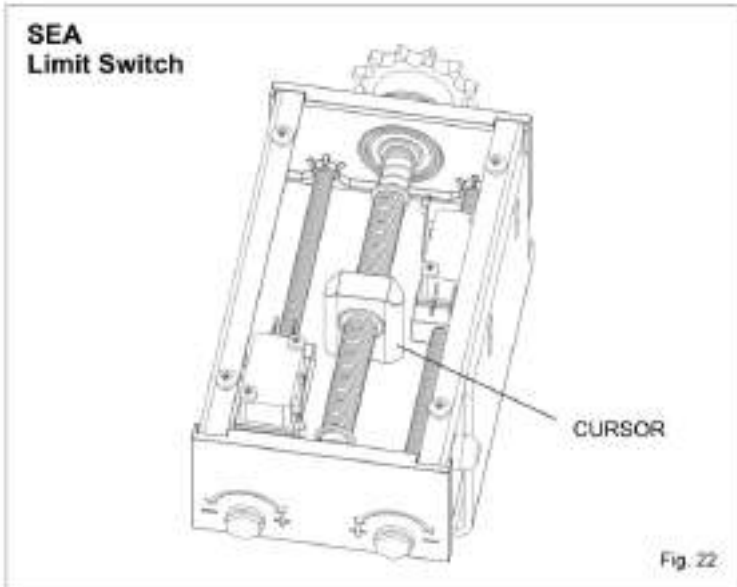

Fig. 22
**6.1.** Before acting on the limit switch, make sure that during the assembling of the motor reducer complete of chain at the gate, the limit switch cursor must be in the central position of its run (fig. 22) and the gate must be in the middle of its opening.